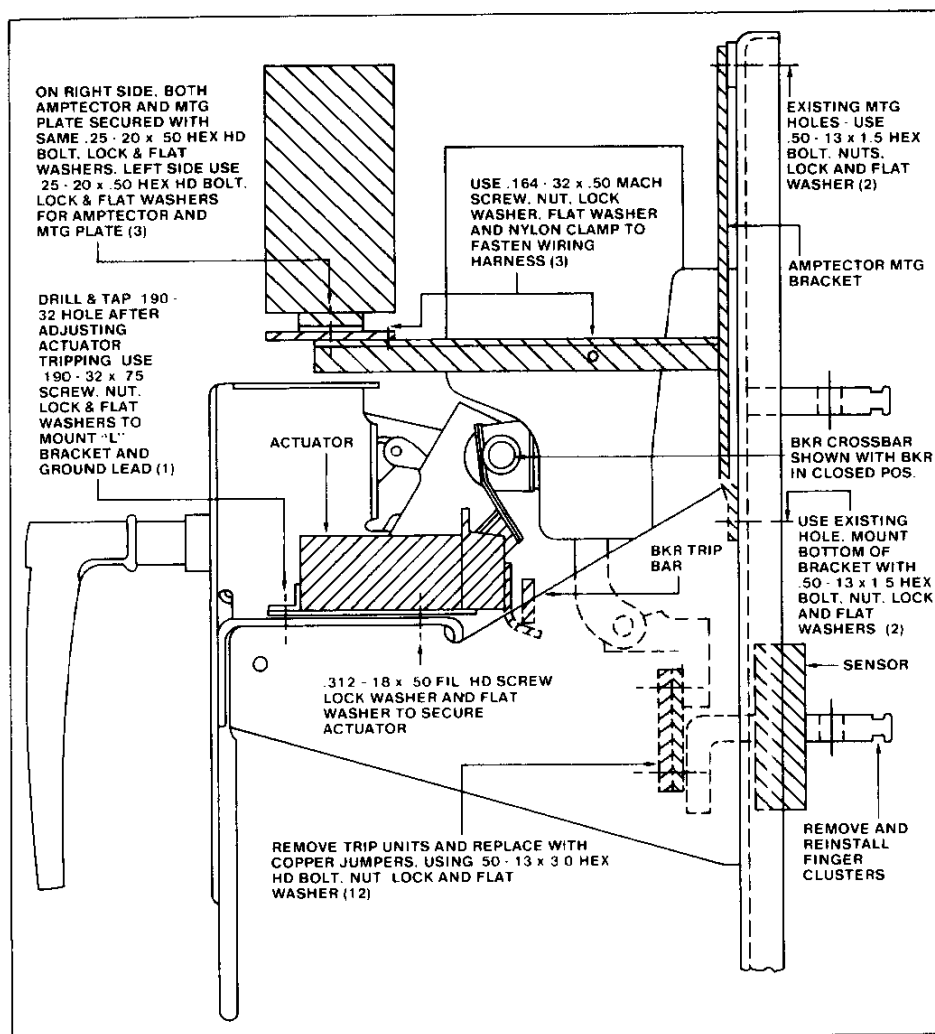

Fig. 23 Right Side View of DB-50
Sensor (200 Amps thru 1600 Amps) See Fig. 23	8184A38H01
- B. Familiarize yourself with the right hand side view of breaker, Fig. 23.